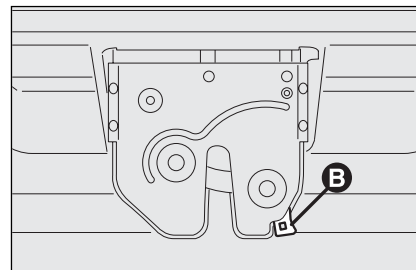

fig. 96
- ☐ fit a screwdriver into the hole on the lock and unlock the opening mechanism **B**-fig. 96.